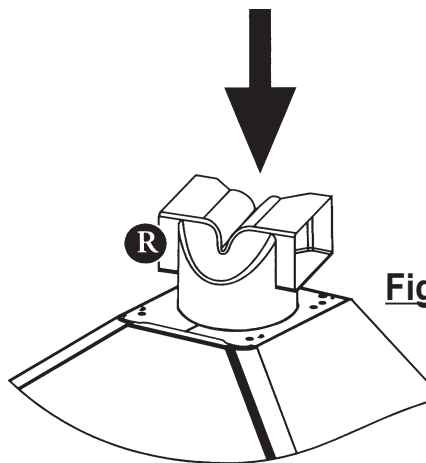

Fig.6
To fit the recirculation spigot (R), place the spigot over the outlet on top of the canopy and push down on the spigot until it snaps into position as illustrated in Fig. 6.